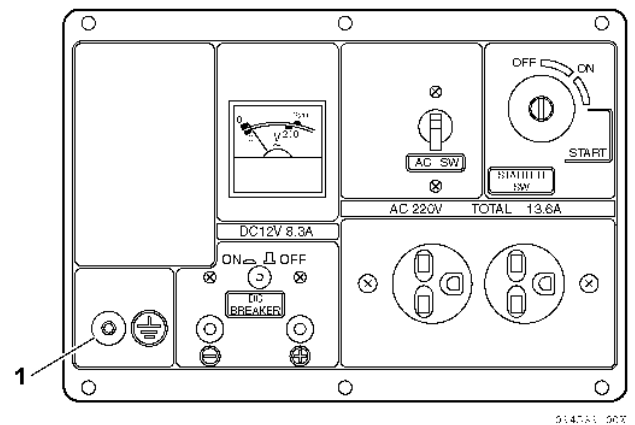

Figure 50
- Attach the ground wire to the grounding point (Figure 50, (1)). You must supply the ground wire and grounding point. These are not supplied with the generator. Follow the national electrical code and all state and local codes. Consult your power company or a licensed electrician.